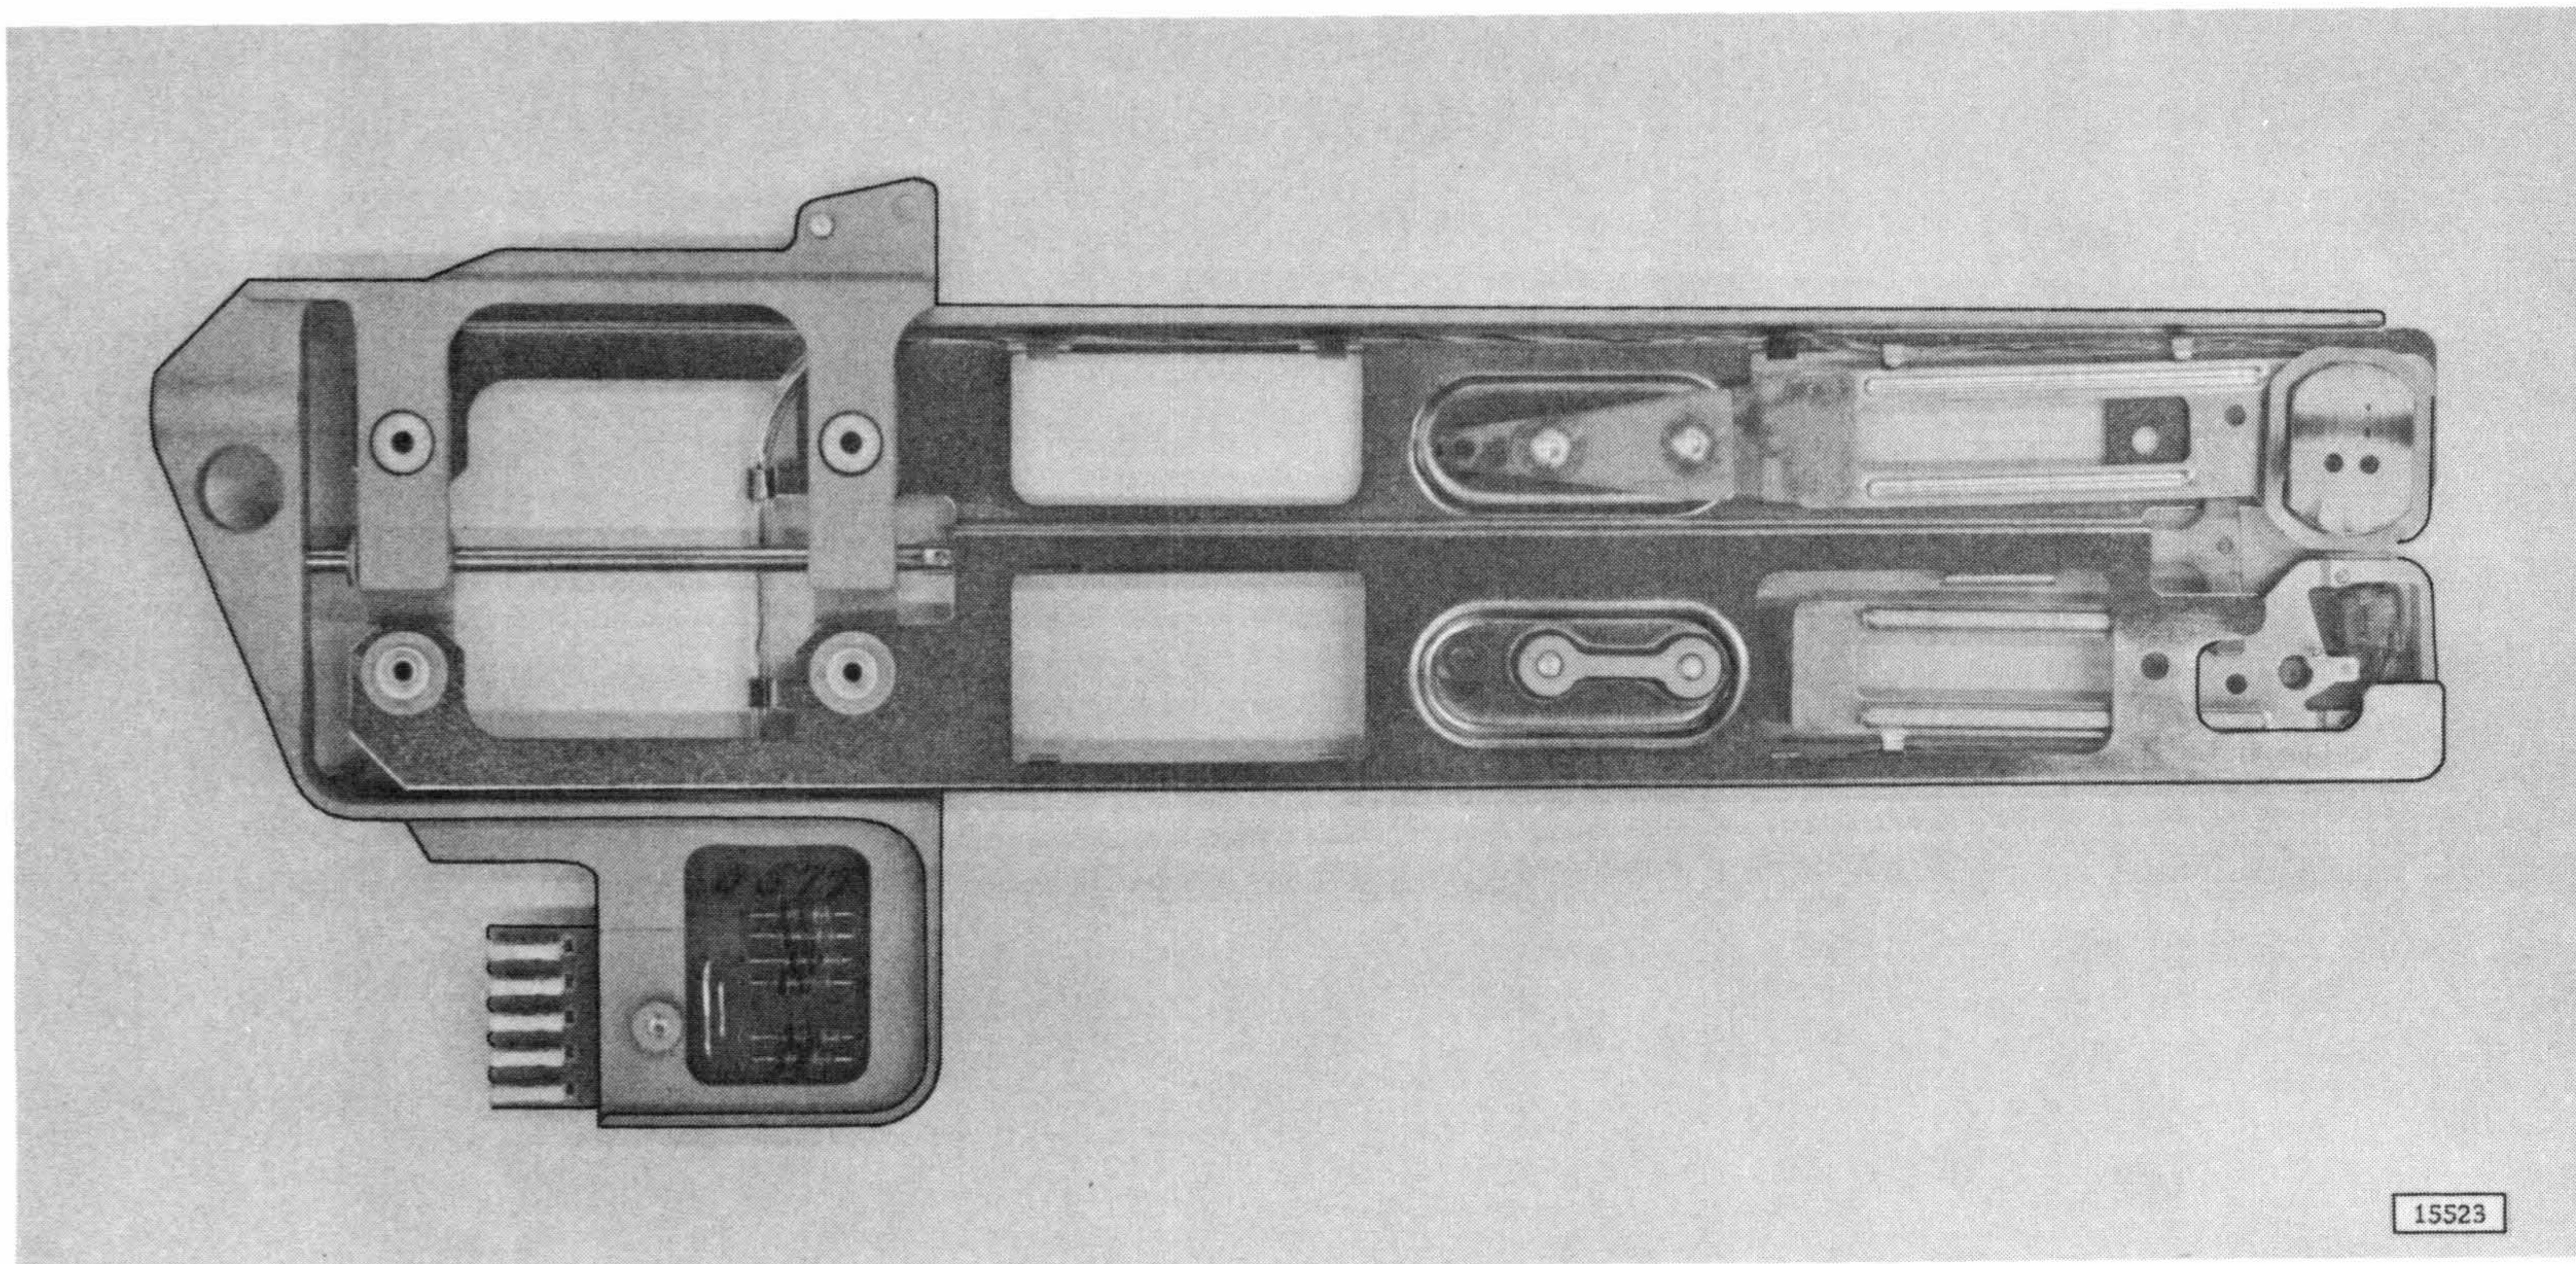

Figure 4-22. Drawer Assembly
4.8 DRAWER ASSEMBLY (Figure 4-22)
2. Check for proper position of torsion rod (Figure 4-22).